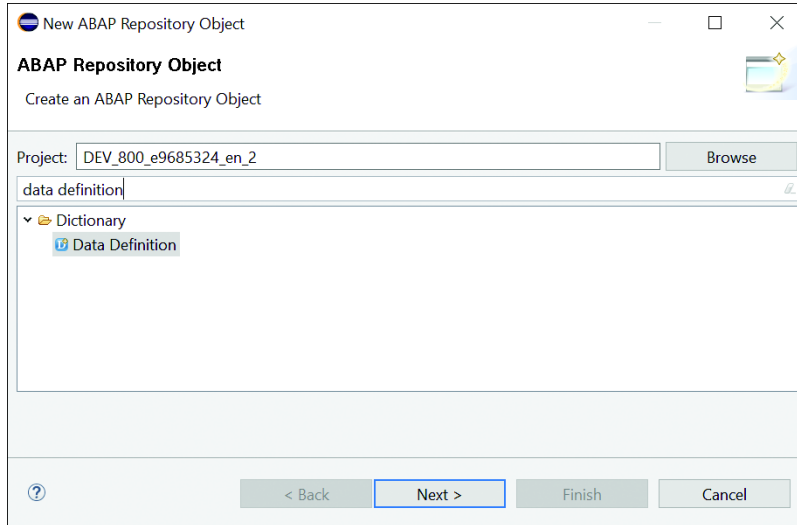

Figure 10.46 Data Definition
3. In the **NEW ABAP REPOSITORY OBJECT** window, expand the **DICTIONARY** folder and select **DATA DEFINITION**. You can also search for "data definition", as shown in Figure 10.46. Click **NEXT**.